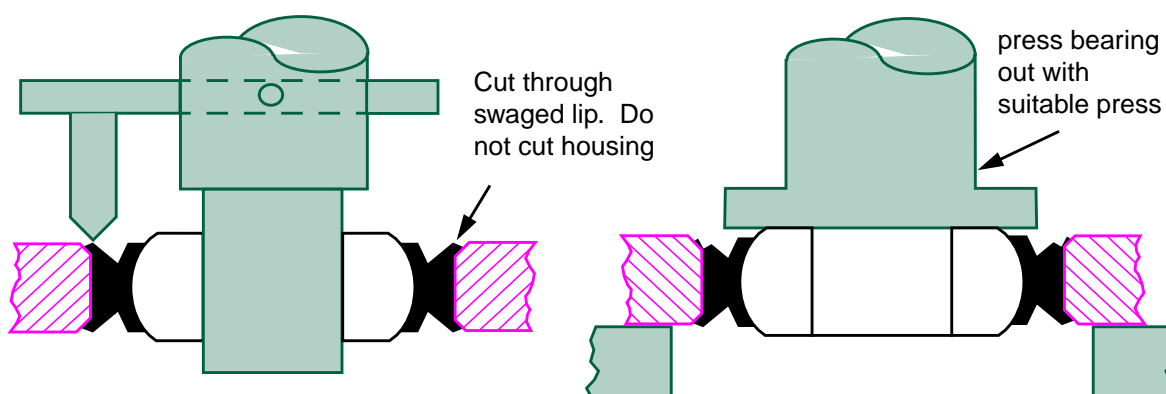

Figure 4 - Removal of Swaged Bearings
- Step 1. Cut through the swaged lip on one side of the bearing race using a piloted fly cutter in a drill press as shown in Figure 4. Take care to avoid cutting into the part housing.